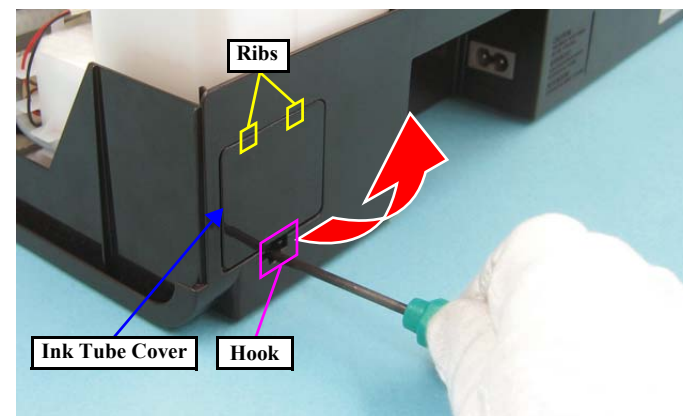

Figure 4-37. Removing the Ink Tube Cover
- Secure the Ink Tube Cover with the hook after inserting the two ribs shown in Fig.4-37 (p.72).